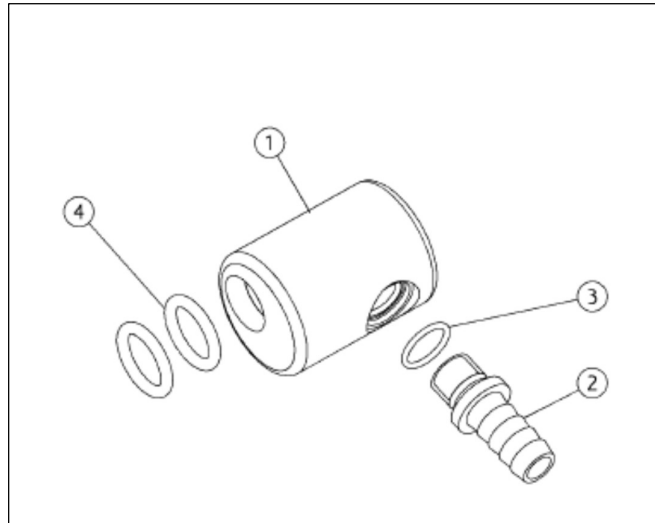

Figure 5 – Connector, instrument holder
<input type="checkbox"/>	Replace O-rings (UH-073) in the cup filler connector on the instrument holder – see (4) in Figure 5.